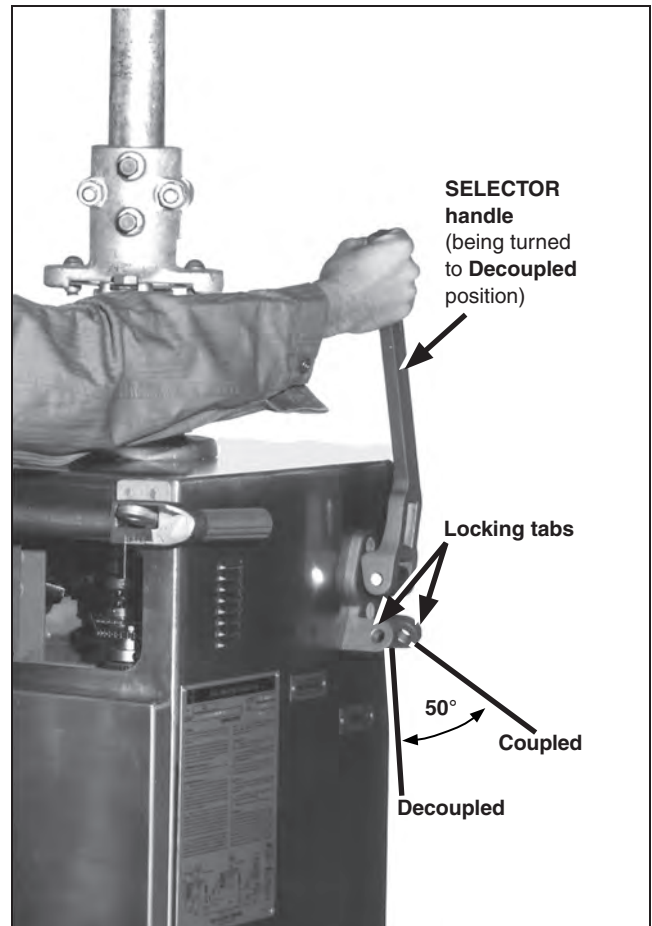

Figure 47. Selector handle operation.
The integral external SELECTOR handle, for operation of the built-in internal decoupling mechanism, is located on the right-hand side of the switch operator enclosure. See Figure 47.
- STEP 1.** Swing the SELECTOR handle upright and slowly rotate it clockwise 50° to the **Decoupled** position. See Figure 47.